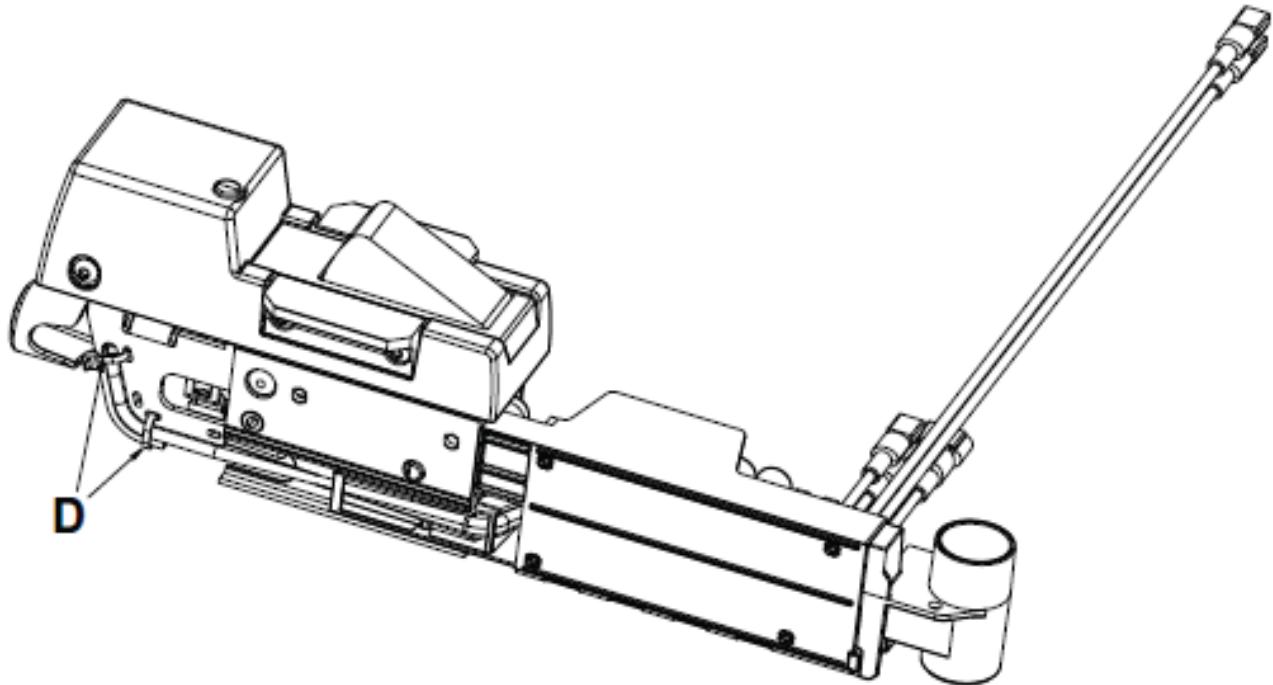

Figure 44 – Remove cable ties
10. Using diagonal pliers, cut the cable ties (D) that secure the coil wires to the wire management strap (Figure 44).